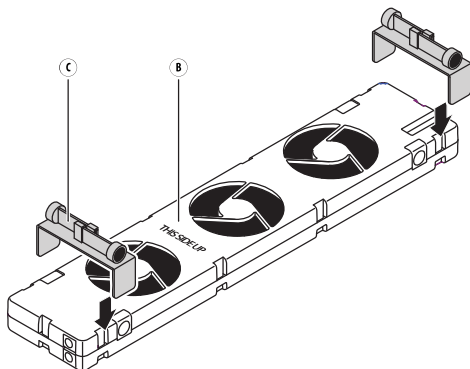

Fig. 5 - Attach the bracket to the **SpeedComfort** (B1).
1. Connect the two **brackets** (C1, C2) on top of the **SpeedComfort** (B1) (see fig. 5).
2. Repeat steps 1-7 as for the *wide radiator*. Use the **adjustable magnets** (c1, c2, c3, c4) on the **brackets** (C1, C2) to hang the **SpeedComfort** (B1) between the plates (see fig. 5 and 6). Align the **SpeedComfort** (B1) with the front of the radiator to optimize the ventilation.